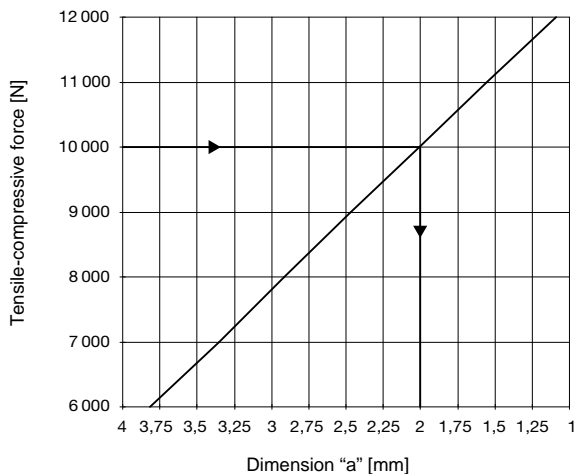

Fig. 2 (This Adjustment Diagram for Size 4, Type 3_ _6_0 only serves as an example!)
After having released the set screws (1), the adjusting nut (2) is set to dimension "a" as shown in the Adjustment Diagram (Fig. 2) using a face wrench. By turning the adjusting nut clockwise, the release force is increased. Turning the adjusting nut counter-clockwise leads to a decrease in release force (viewing direction: facing the front of the adjusting nut (2)). Afterwards, the adjusting nut (2) must be secured again using the set screws (1).
$a = 2\text{ mm}$ (Fig. 2)